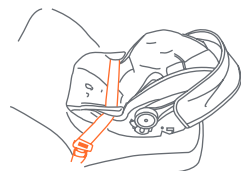

Fig. 43-1
- An **automatically retracted** lap seat belt is tightened by feeding belt back into its retractor while pushing down hard on the Safety Seat or Base. Make sure that the retractor locks the lap belt into place and that the belt remains very tight (Fig. 43-1).